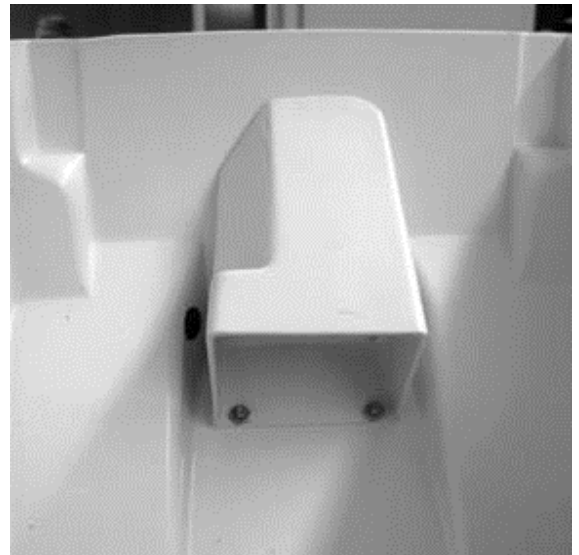

Fig 1
4. Insert fan housing in back of unit as shown in Fig. 1